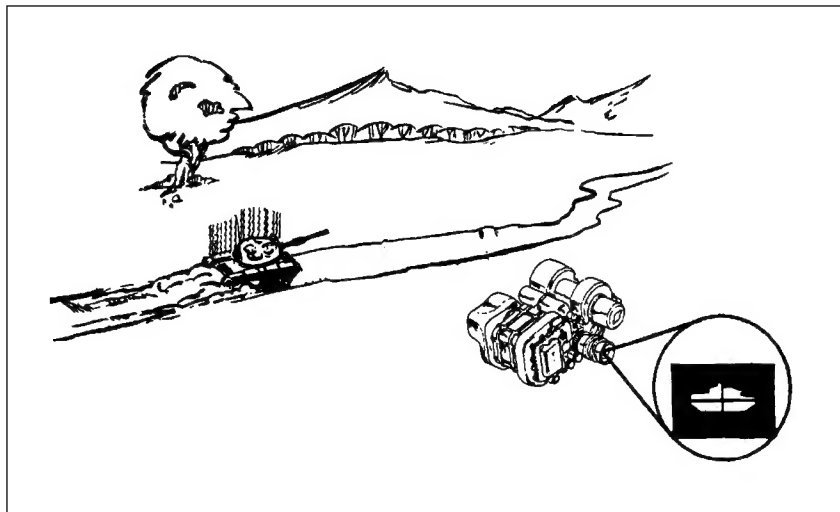

Figure 1-6. Nightsight's infrared (heat) capability.
(1) The passive, 4-power AN/TAS-5 nightsight has a 3.4-degree by 6.8-degree FOV. The nightsight is larger and heavier than the daysight. The nightsight converts heat emissions (infrared energy) from a target area into electrical signals, then to visible light (Figure 1-6, page 1-4). This enables the nightsight to display a real-time scene. Objects warmer than the ambient (surrounding) temperature appear in shades of red; cooler objects appear black. Like the daysight, the nightsight monitors the missile and sends commands to keep it on the gunner's line of sight.
(2) The firing mechanism, control system, and guidance system are the same as those on the daysight.
(3) The externally mounted 4.8-volt DC battery and coolant cartridge enable the nightsight to function without an external power source. If the appropriate accessory equipment is available, the nightsight can use military vehicle power.
(4) The nightsight has more controls and operates differently than the daysight.